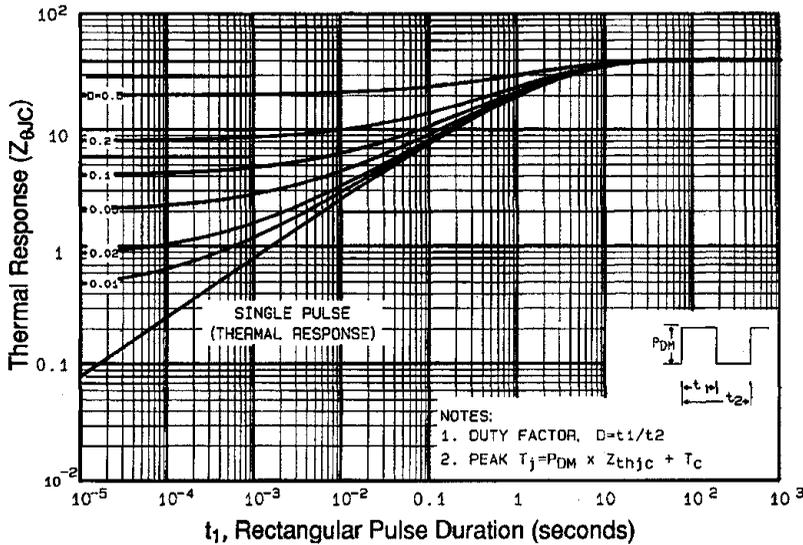

Fig 11. Maximum Effective Transient Thermal Impedance, Junction-to-Case
① Repetitive rating; pulse width limited by max. junction temperature. (See fig. 11)
② $V_{DD}=25V$, starting $T_J = 25^\circ\text{C}$, $L = 16\text{mH}$